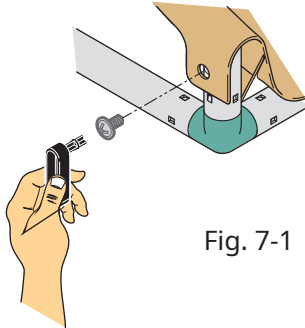

Fig. 7-1
(1) Once the model is constructed, secure the ends of the slide to the tubes using the TUBE SCREWS and CRANK or double CRANK as shown (Figs. 7-1 & 7-2).